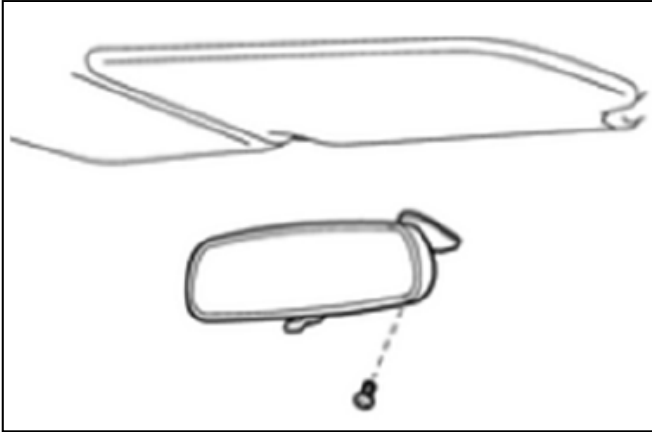

Figure 9a
9. Using a T20 "TORX" socket wrench, remove the screw and inner rear view mirror assembly. See Figure 9a and 9b.
Replacing the factory EC mirror with the Frameless® EC Mirror w/ Compass & HomeLink® Remove the inner rear view mirror cover. Disconnect the connector. Using a T20 "TORX" socket wrench, remove the screw and inner rear view mirror assembly. See Figure 9a and 9b.